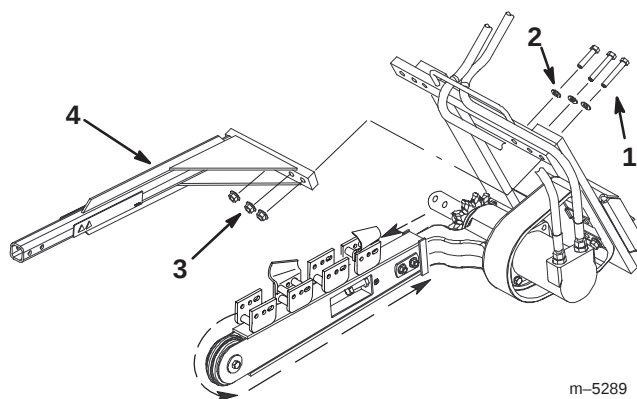

Figure 3
1. Remove the 3 bolts, washers, and flange nuts from the upper left corner of the trencher frame (Fig. 3).
2. Using the fasteners removed in step 1, install the trencher safety bar as illustrated in Figure 3.